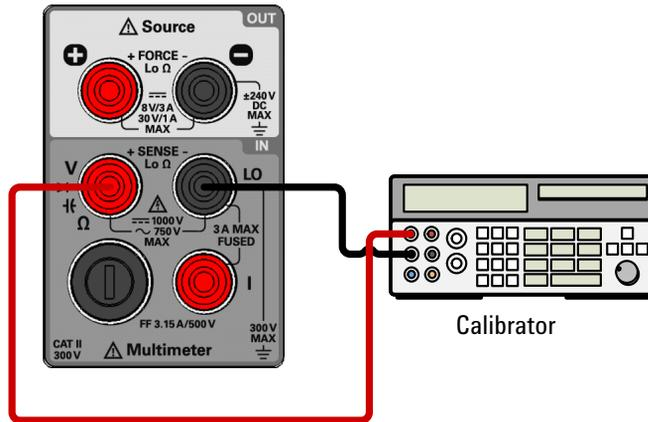

Figure 5-2 Test setup for DC voltage, AC voltage, resistance, and capacitance gain verification
- 1 Connect the calibrator to the front panel **V** (red) and **LO** (black) input terminals (see Figure 5-2 on page 142).
- 1** Connect the calibrator to the front panel **V** (red) and **LO** (black) input terminals (see Figure 5-2 on page 142).